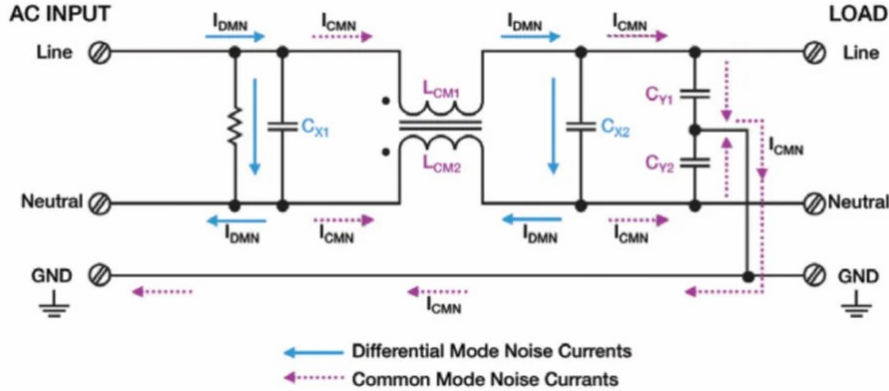

Figure 2: AC filter noise path.
The first stage of the OBC is the EMI filter. During this stage AC power is filtered to remove any undesirable noise from the typical AC sine wave that is expected. At the input of our system, the input can present some imperfections due to the high switching components involved in the following stages. Radiated EMI from other components can also be picked up on power cabling, adding to conducted levels. The system can experience at its input mainly two types of Electromagnetic interference (EMI) which are Differential Mode (DM) and Common Mode (CM) Noise. (Figure 2)